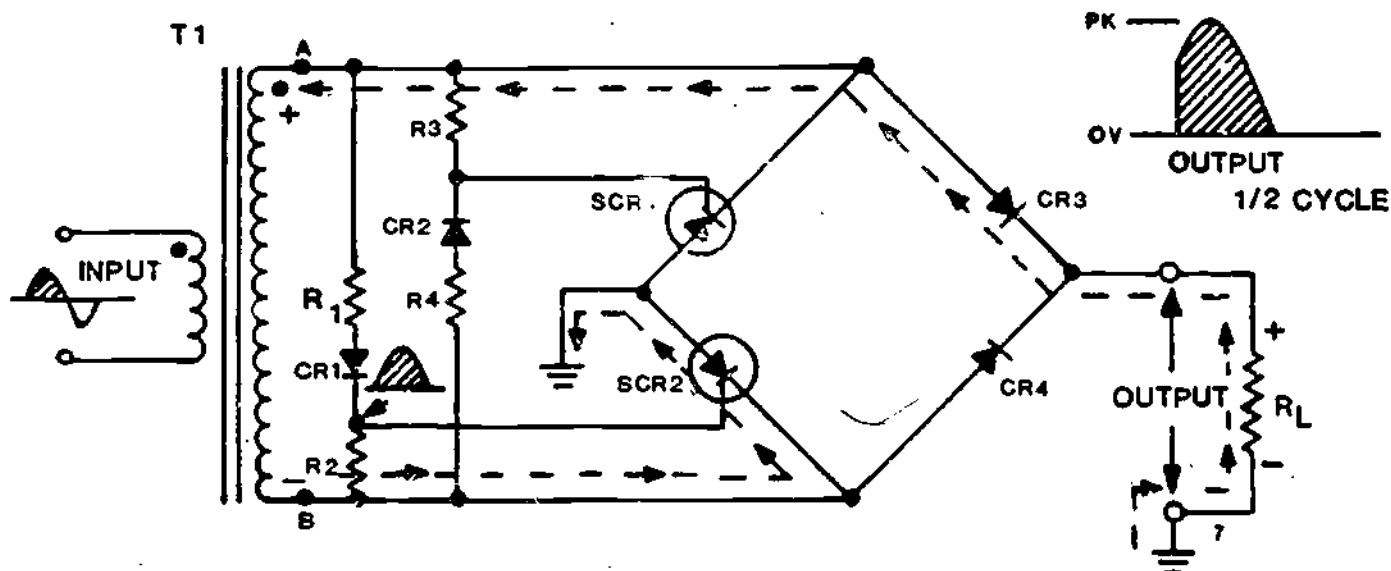

Figure 19
- (23.) Refer to the SCR bridge power supply schematic shown in Figure 19.